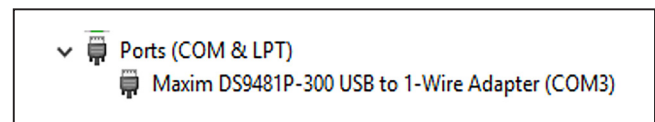

Figure 2. Device Manager Confirming Device Is Recognized
- 6) Confirm the device appears as shown in Figure 2.